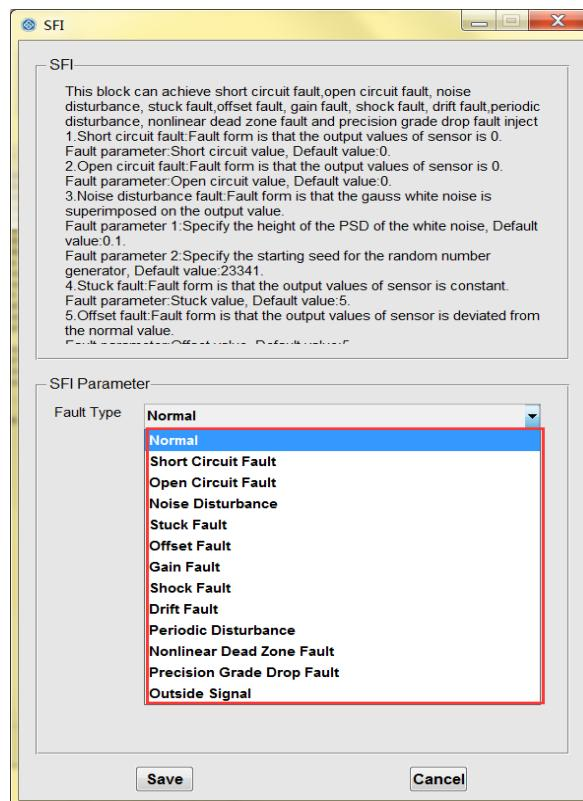

Fig. 52 Sensor fault type selection
- ③ Select the sensor fault type as shown in Fig. 52.